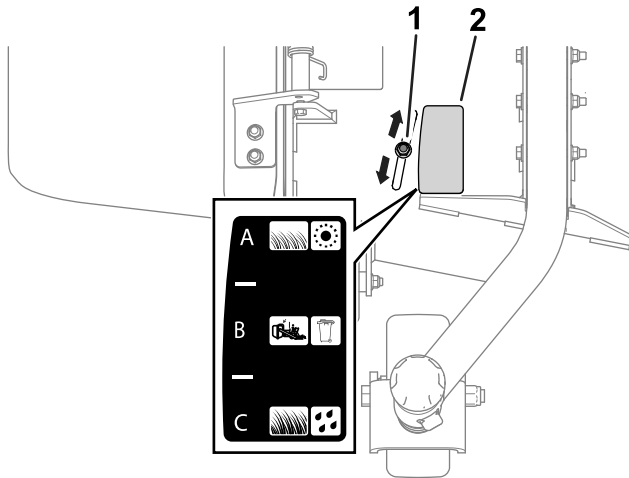

Figure 14
2. Loosen the nut (Figure 14).
Refer to the following sections for a description of each flow-baffle position. Figure 14 illustrates each position (i.e., A, B, and C) as seen on the decal.